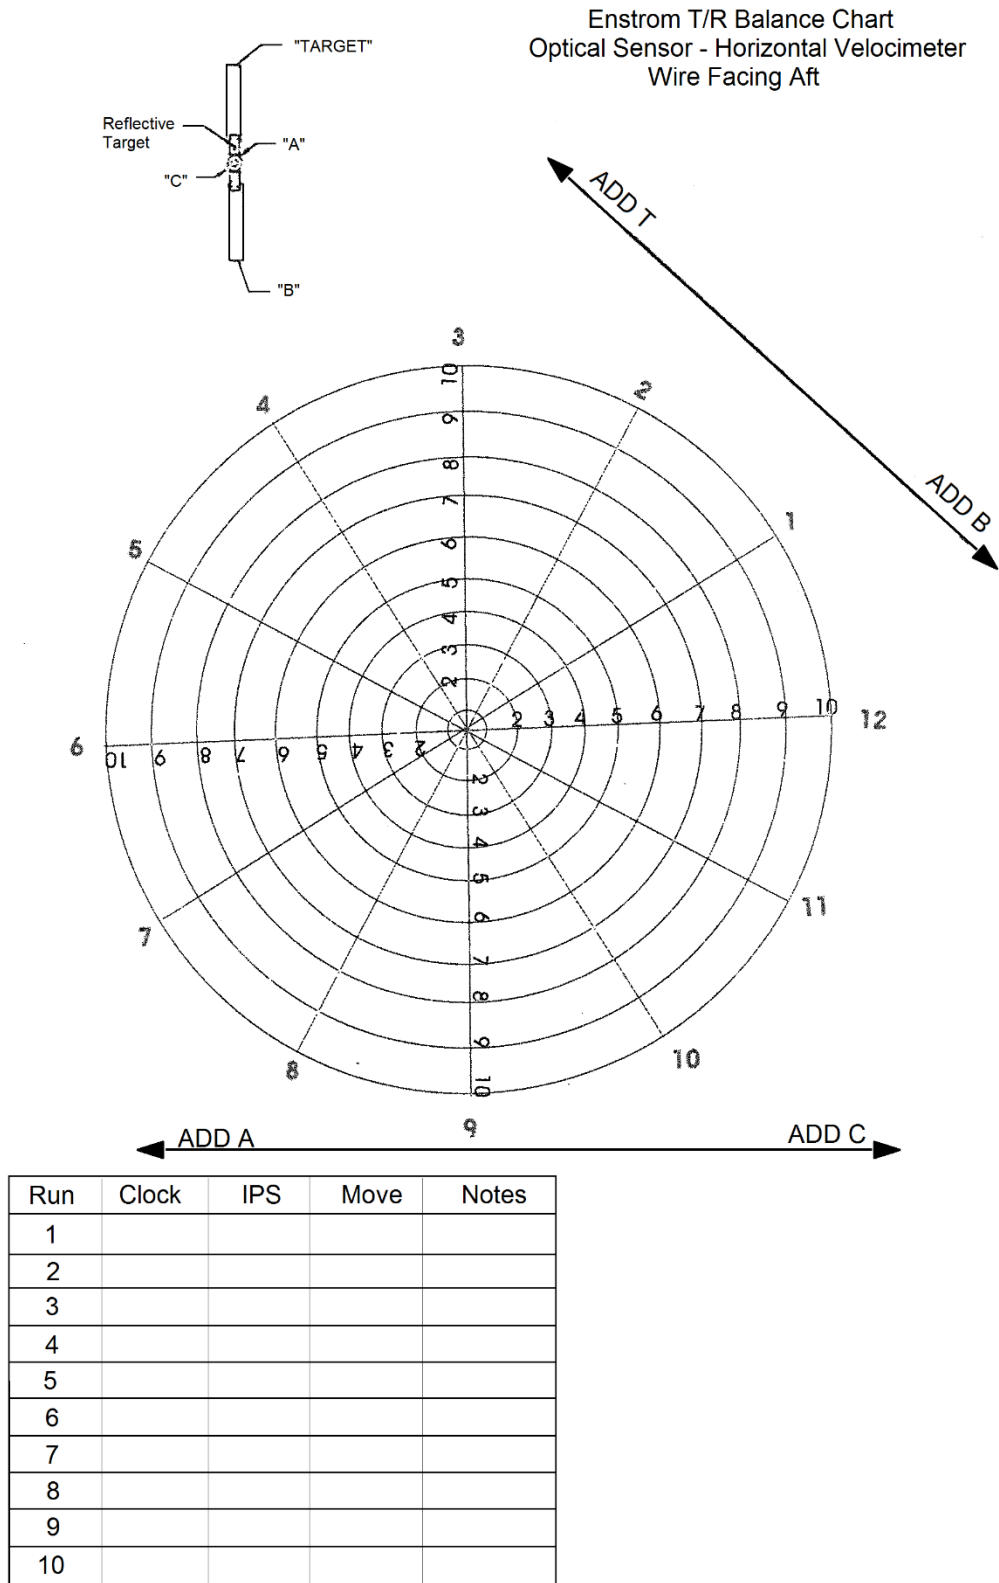

Figure 10-10. Tail Rotor Balancing Chart
- (1) Position helicopter so the tail rotor transmission output shaft is pointing into the wind (either upwind or downwind).
- (2) Ground run the aircraft at 350 main rotor RPM with the tail rotor pedals neutral.
- (3) Using the procedures provided by the operation instructions, obtain a clock angle and ips reading from the balance box.
- (4) End ground run to stop the blades from turning.
- (5) Plot ips reading and clock angle on the tail rotor balance chart (Fig. 10-10).
- (6) Add weight in accordance with the chart (Fig. 10-10) and check the clock angle and ips reading of the tail rotor. If the move line of the weight change does not coincide with the move lines on the chart, use the "Clock Angle Correction" procedure (Para. 10-3.C).
- (7) Continue tail rotor balance procedure until the ips reading is 0.2 ips or less.
- (8) Remove tracking and balancing equipment from the aircraft.